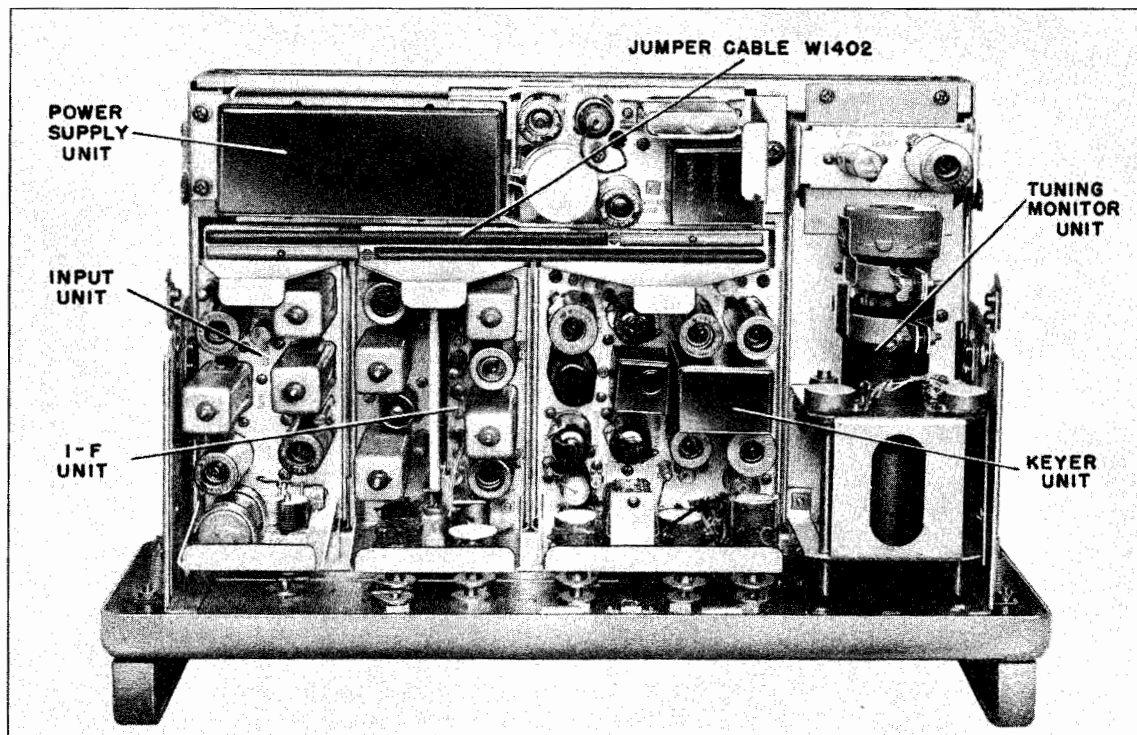

Figure 1-4. Frequency Shift Converter CV-57/URR or CV-71/URR, Top View
Frequency Shift Converter CV-57/URR includes the following units, which are described below (see Figure 1-4). Mention is also made of Frequency Shift Converter CV-71/URR which differs from the CV-57/URR in that it operates at 50-kc input frequency and is supplied only as a part of Frequency Shift Converter-Comparator Group AN/URA-7.
(1) CONVERTER CHASSIS (see Figure 1-4).—The Converter Chassis supports all the Frequency Shift Converter units except the Cable Filter Unit which is mounted on the back of the case. The units are interconnected by plugs and jacks when inserted